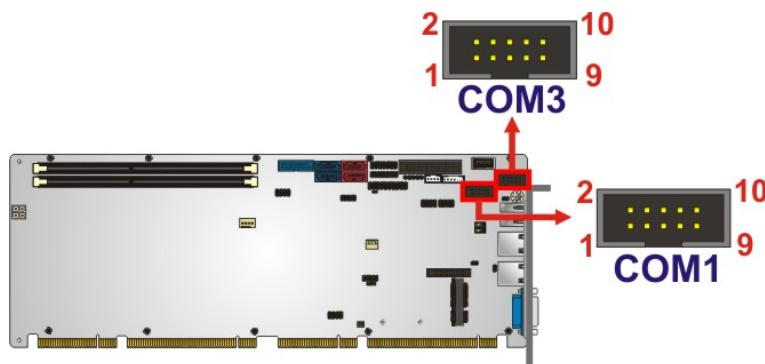

Figure 3-21: Serial Port Connector Location
**CN Location:** See Figure 3-21